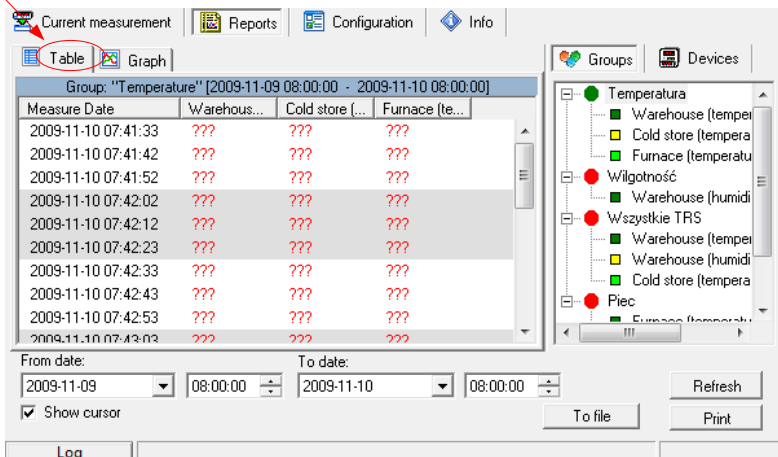

Figure. 3.19. Reports - Table tab
The **Table** tab (Figure. 3.19) is used for printing information concerning recorded measurements (e.g. temperature, humidity) in the form of a table for one of the groups or a particular measurement device selected by the user (for more information on groups see 3.5 section, at page 33). This tab also enables the export of data to text format files. The exported file is formatted in a way allowing the transfer of data to a calculation sheet.
- click appropriate tab **Groups** or **Devices** (Figure. 3.19),